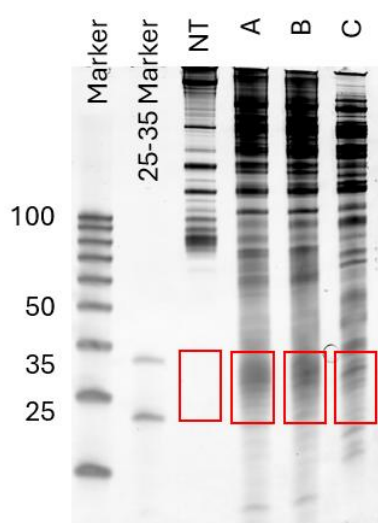

Fig.6 Example of RNA extracted after nuclease titration run on 15% TBE-Urea gel. In the red square the sizes are between 25-35 nt.
As depicted in the figure above, a non-digested (NT) sample does not present the typical enrichment of fragments at 25-35 nt (red square in Fig.6). Under-digested sample (A) does display an enrichment of RPFs but they are not well resolved, while the over-digested sample (C) should display a ladder-like pattern of bands below 50 nt and the disappearance of the signal on the top part of the gel. In this example, the quantity of Nux used in sample B needs to be utilized for all the reactions as it displays a sharper definition of peaks between 25-35 nt.
Figure 6. Example electropherogram libraries results before size selection. Typical electropherogram for a library prepared with RPFs obtained from an immortalized cell line with RiboLace kit. The library was analyzed on an Agilent 2100 Bioanalyzer using the Agilent High Sensitivity DNA Kit. The electropherogram presents a peak between 200 to 220. In this example, the peak at 202 bp corresponds to the size of RPFs, while the peaks at 173 bp correspond with the size of adaptor dimers.